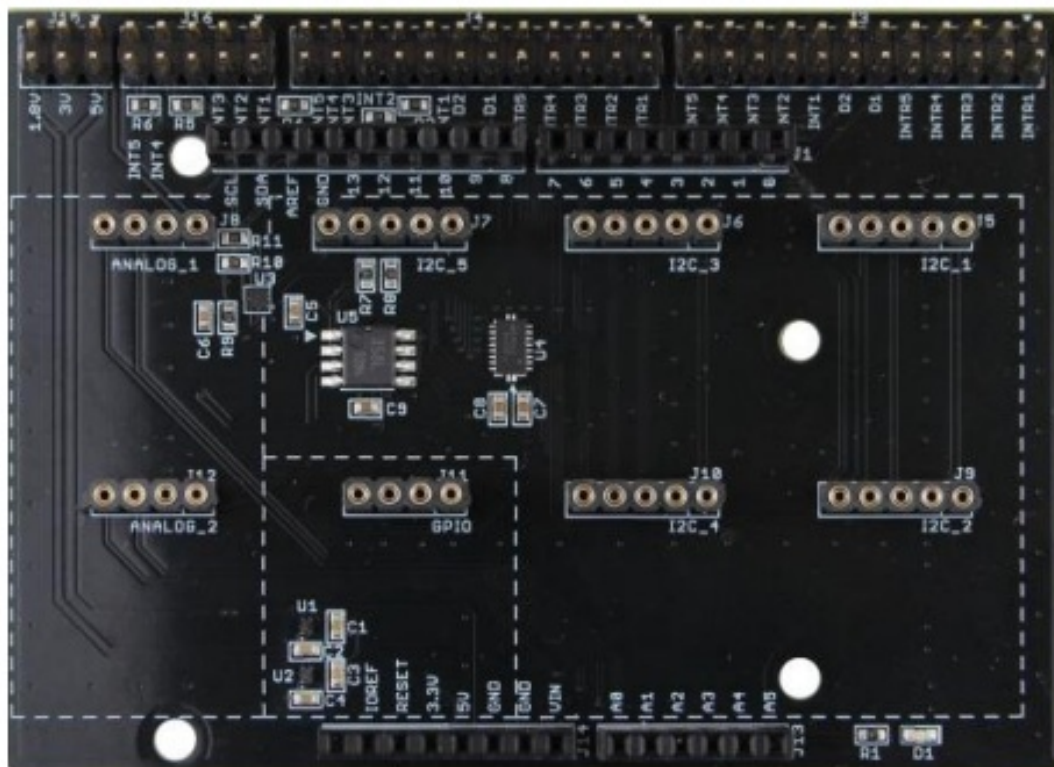

Figure 1. SensorShield (Top)
- Connection Board between Arduino and ROHM Sensor Board (Figure 1, 2)